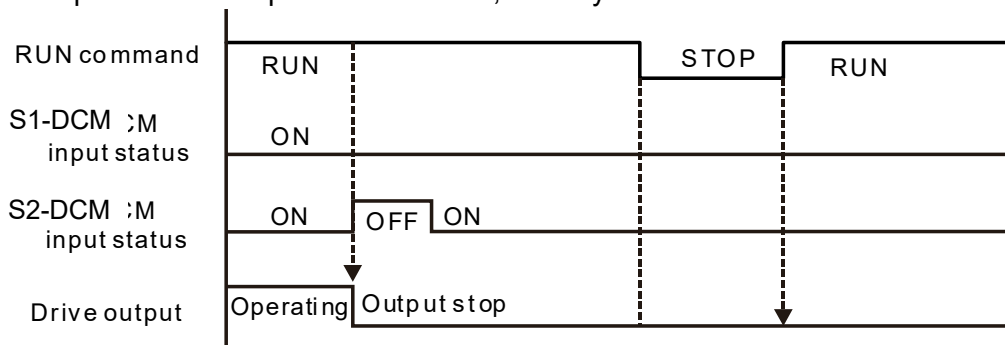

Figure 9
As shown in Figure 9: When S1-DCM is ON during operation (STO function is not required) and S2-DCM is OFF (STO function is required), the drive will stop outputting and keypad will show STL2 error. However, STL2 error cannot be reset even if the S2 status is restored (ON) regardless of the parameter setting. Turn the power on after power off to reset, thereby the drive can restore to normal standby state.